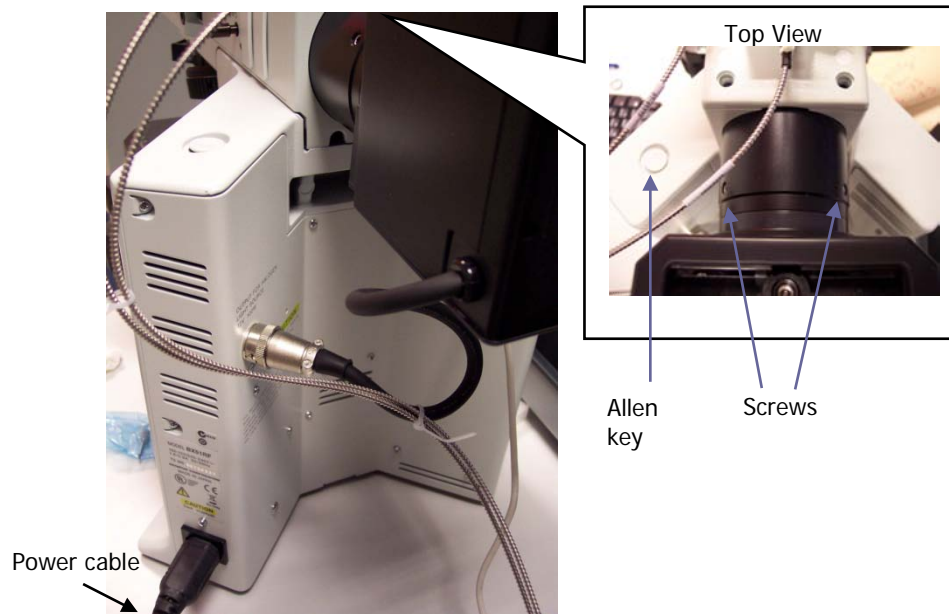

Figure 17 Attaching the illumination source to the microscope
2. Using the allen key supplied (Figure 17), fasten the two screws so that the source is supported.
3. Connect the power cable from the microscope to the mains supply (Figure 17), and then switch on the microscope.